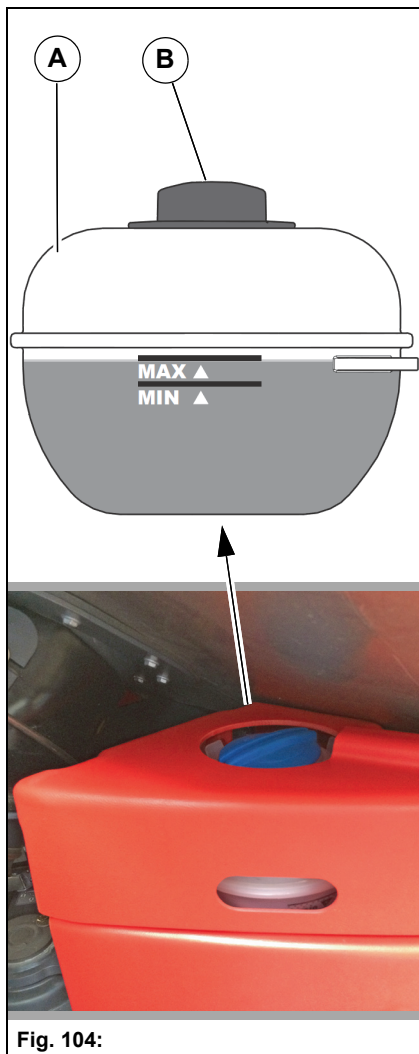

Fig. 104:
Check the coolant level in the expansion tank **Fig. 104-A** daily and refill as required.
3. Unscrew the cap **Fig. 104-B** carefully step by step from the expansion tank.